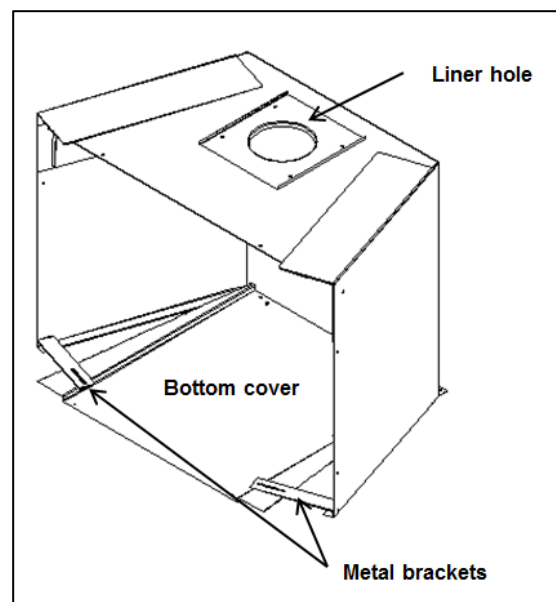

Figure 18: Circulating Chamber Assembly
- ii. Secure the bottom cover to the back wall of the circulating chamber and bend inwards the metal brackets at the front bottom (Figure 18).
- iv. Loosen the wing nuts of the adjustable liner hole (Figure 18).